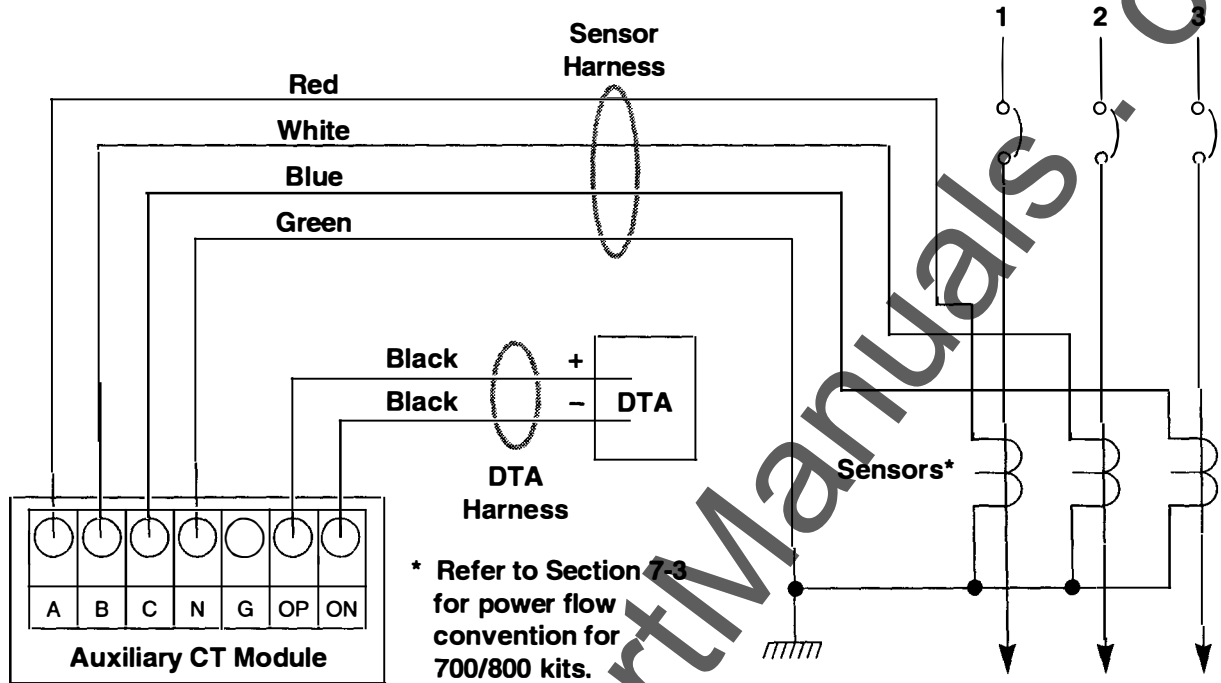

Figure 12-1 Without Ground 3Ø 3-Wire (LI, LS, LSI)
To cover both 3 and 4 wire system applications, the Sensor Harness includes two wires to permit the 4th wire connection. These two wires (one tan and one green) are readily identifiable; they are the longest two wires that protrude from the Sensor end of the harness. Determine the applicable wiring diagram (Figure 12-1, 12-2, 12-3, 12-4) for your application, and perform the following:
1. If the retrofit is for a 3-wire system (Figure 12-1 or 12-2) the wires provided for the fourth wire connection are not needed. Remove the terminals from the long ends of the green and tan wires, then use the ohmmeter to confirm the other ends and remove them by sliding them out of the harness.